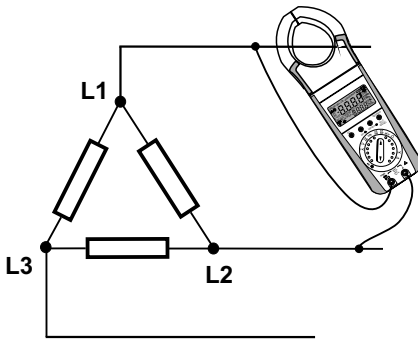

Fig 12.2.1 Connection diagram for 3ph3w balance load
- 2) Meter will show L1-2 and I-1 on display. Connect meter to phase 1-2 as shown in fig 12.2.1.